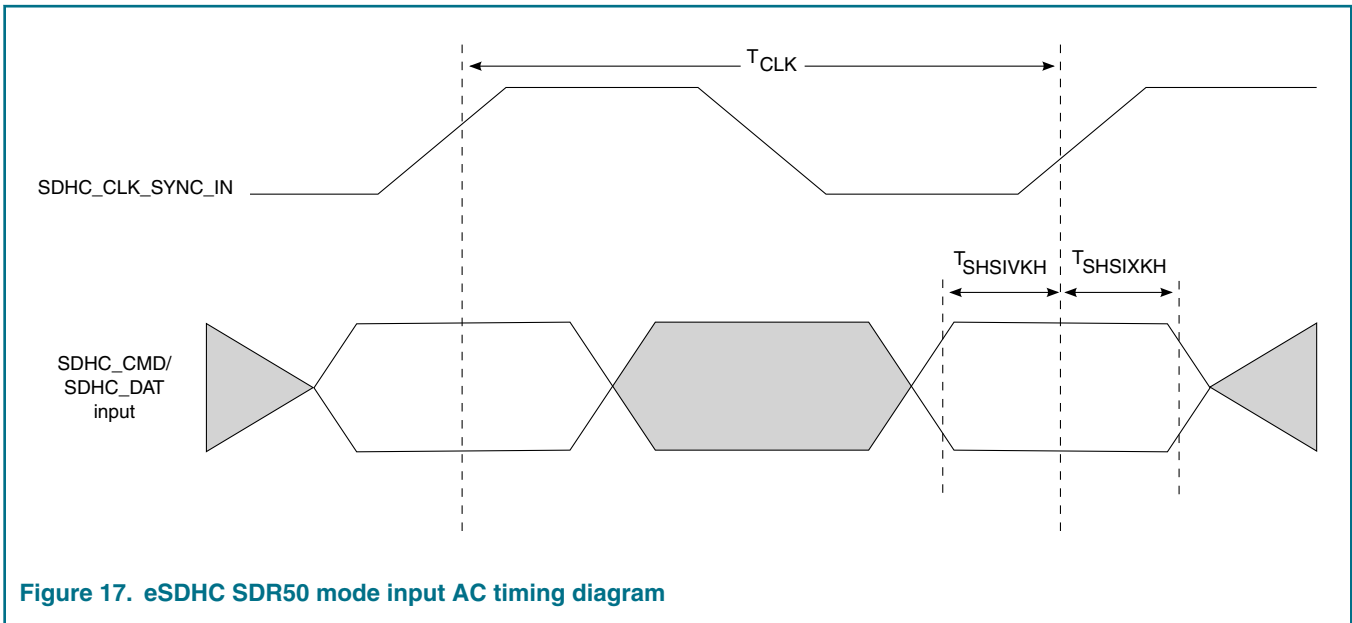
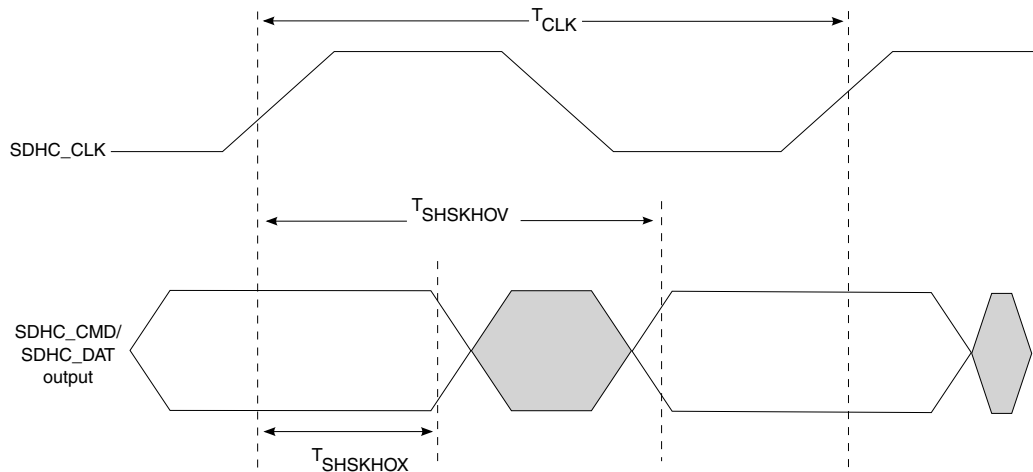

Figure 17. eSDHC SDR50 mode input AC timing diagram
Figure 18. eSDHC SDR50 mode output timing diagram
<p>1. $C_{CARD} \leq 10 \text{ pF}$, (1 card), and $CL = C_{BUS} + C_{HOST} + C_{CARD} \leq 30 \text{ pF}$.</p> <p>2. The symbols used for timing specifications herein follow the pattern of $t_{(\text{first two letters of functional block})(\text{signal})(\text{state})(\text{reference})(\text{state})}$ for inputs and $t_{(\text{first two letters of functional block})(\text{reference})(\text{state})(\text{signal})(\text{state})}$ for outputs. For example, t_{SHKH0X} symbolizes eSDHC highspeed mode device timing (SH) clock reference (K) going to the high (H) state, with respect to the output (O) reaching the invalid state (X) or output hold time. Note that in general, the clock reference symbol is based on five letters representing the clock of a particular functional. For rise and fall times, the latter convention is used with the appropriate letter: R (R for rise) or F (F for fall).</p> <p>3. See Figure 17. on page 88.</p> <p>4. See Figure 18. on page 89.</p> <p>5. The AC timing specifications are based on the recommended operating conditions with $EVDD /OVDD = 1.8V$, see Recommended Operating Conditions</p>